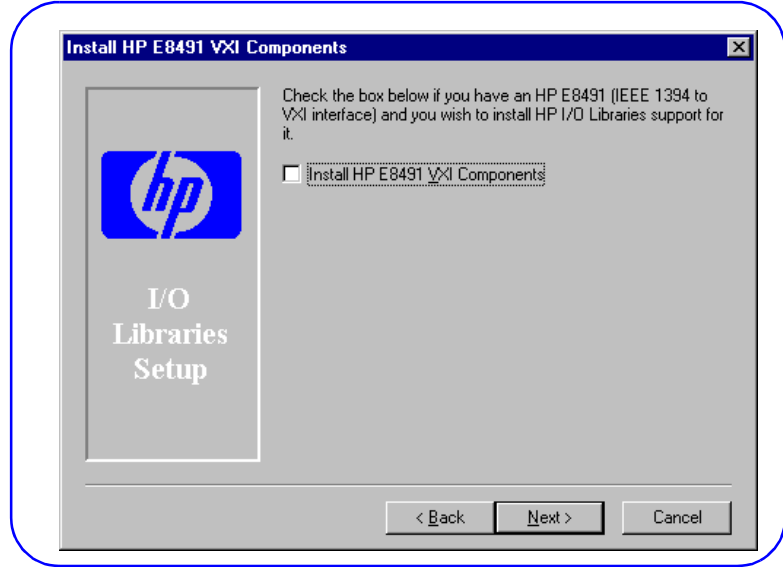

Figure 22. Install HP E8491 VXI Components Screen
- 5 When the **Install HP E8491 VXI Components** screen appears (see Figure 22), check the “Install HP E8491 VXI Components” box if your system has an HP E8491A (IEEE-1394 to VXI interface) and you want to install drivers for it. Then, click *Next*.